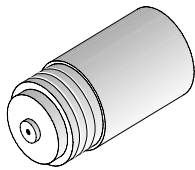

Figure 3. 01-103 Glass Bead Holding Fixture
- Flux the glass bead and insert it, long-end first, into the 01-103 Glass Bead Holding Fixture (Figure 3).
- Flux the glass bead and insert it, long-end first, into the 01-106 Glass Bead Holding Fixture (Figure 3).